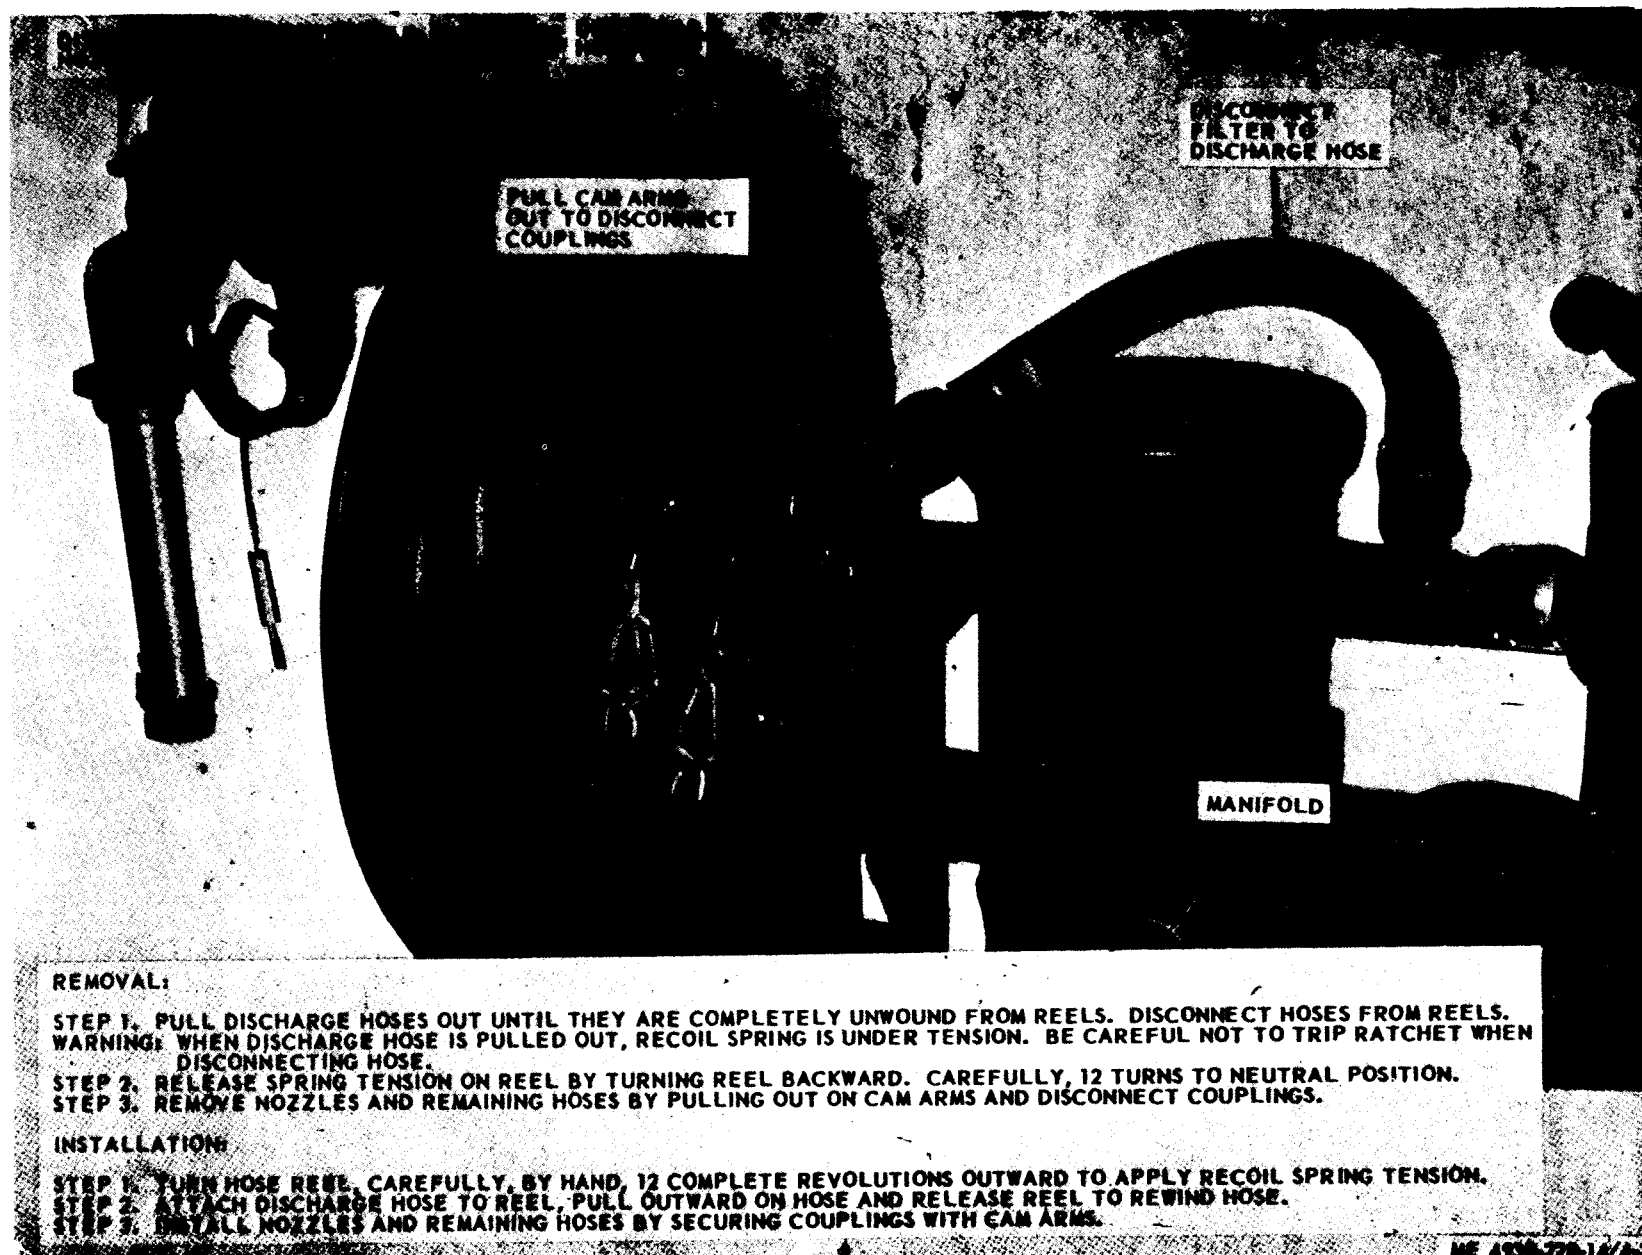

Figure 4-21. Hose, nozzles, and bonding wires, removal and installation.
a. Removal. Refer to figure 4-21 and remove the hoses, nozzles, and bonding wires.
(1) Clean hoses, coupling, and parts thoroughly.
(2) Inspect the hoses for abraded areas, cracks, breaks, and other deterioration or defects.
(3) Inspect coupling gaskets for excessive compression and wear.
(4) Inspect the couplings for cracks, breaks, distortion, and other damage.
(5) Replace defective parts.
c. Installation. Refer to figure 4-21 and install the hoses, nozzles, and bonding wires.
a. Removal. Refer to figure 4-21 and remove nozzles.
e. Installation. Refer to figure 4-21 and install nozzles.